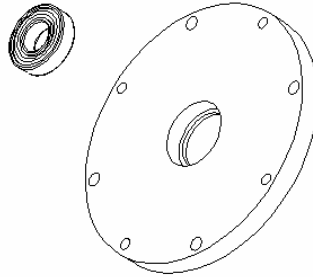

Figure 1
1. Insert bearing R14 in center hole of Ring Plate Float #002 with larger hole facing upwards as shown in figure 1.